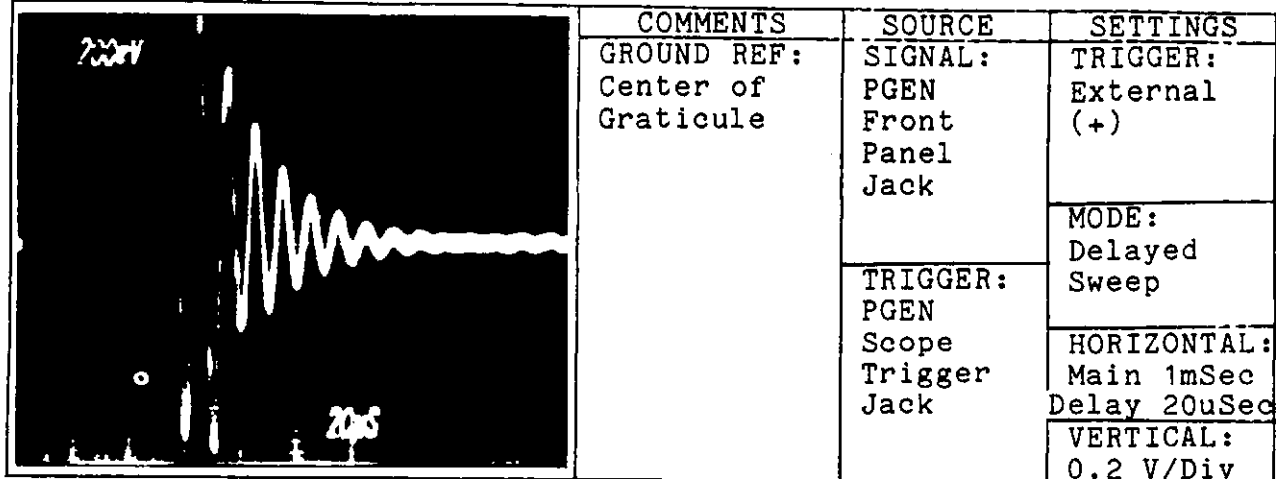

Figure 2.37. Transmitter Drive Waveform with Tail Drive
b. Adjust the 8th/16th PGEN thumbwheel switch so that the first 1/2 cycle of tail drive does not exceed the level of the last 1/2 cycle of normal drive. (see figure 2.37).
c. Adjust R25 counter clockwise (CCW) so that the tail drive decays to zero  $\pm$  40 millivolts at approximately 140 usec from the start of the drive waveform. (see figure 2.37).